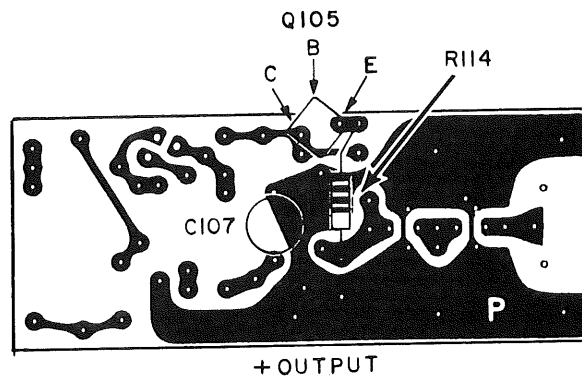

FIG. 3
- 8) Install a 3-pin transistor socket on the + Output board in a similar manner to step 7. See Figs. 3 and 4.
- 9) Install R114, a  $200\Omega$  1/2 W 5% resistor, on the + Output board in its new location. See Fig. 3.